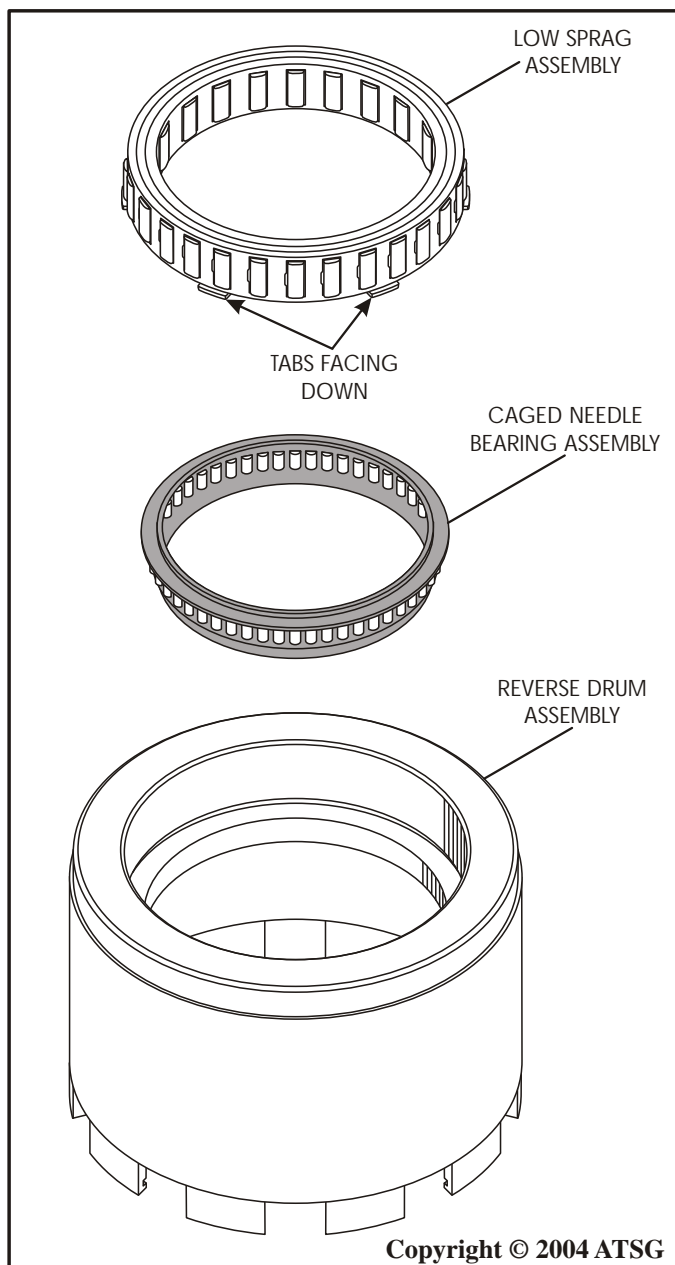

Figure 97
2. If you do take it apart, the bearing assembly must be installed first, in the direction shown in Figure 97.
3. Then install the low sprag assembly, with the tabs facing down, as shown in Figure 97, until it "Snaps" into the groove.